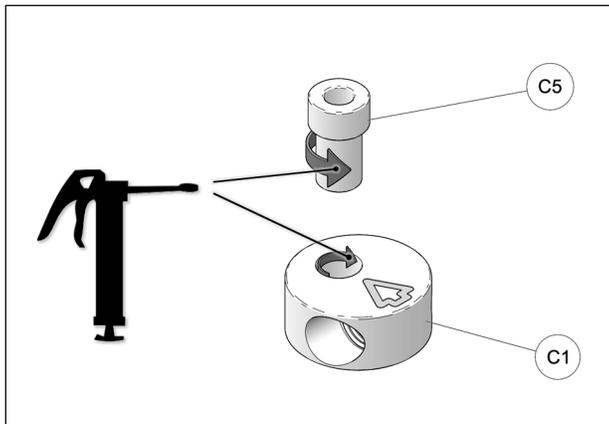

Fig. 21
11. Apply grease evenly all around step spacer bushing (C5) and in hole of aluminium disk (C1) when assembling these parts together. See Fig. 21